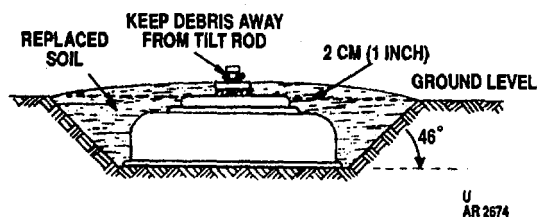

Figure 2-38. Recommended burial for tilt rod fuze AT mines.
- (15) For buried mines, press ground firmly against side of mine, leaving top of fuze uncovered (fig. 2-38).